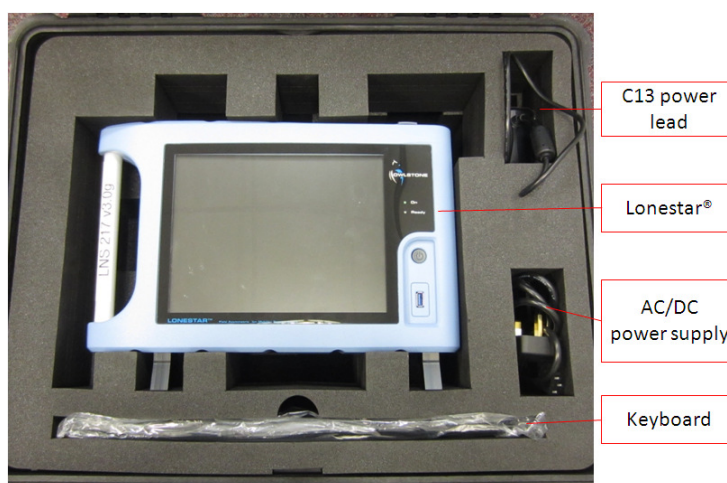

Figure 3 Lonestar® suitcase content
The Lonestar® is delivered in a shock absorbing Pelicase (Figure 3).
- The Lonestar® - with Swagelok® fittings capped off to avoid dust contamination during transportation (shown in Figure 3).
- The Lonestar® power supply separated in two parts: C13 power lead and AC/DC power supply (shown in Figure 3).
- An external keyboard (shown in Figure 3).
- The Lonestar® Safety Notices (90-0284) (not shown in Figure 3).
- A decontamination certificate (90-0027) (not shown in Figure 3) to attach to the Lonestar® if it needs to be returned to Owlstone® for e.g. annual maintenance. This certificate must be completed with the list of chemicals and sample matrices analysed by the Lonestar® system for decontamination within Owlstone's laboratory before maintenance.
- MSDS for the Lonestar® scrubber hydrocarbon (90-0081, not shown in Figure 3).
- MSDS for a Ni⁶³ radioactive source (90-0080, not shown in Figure 3).